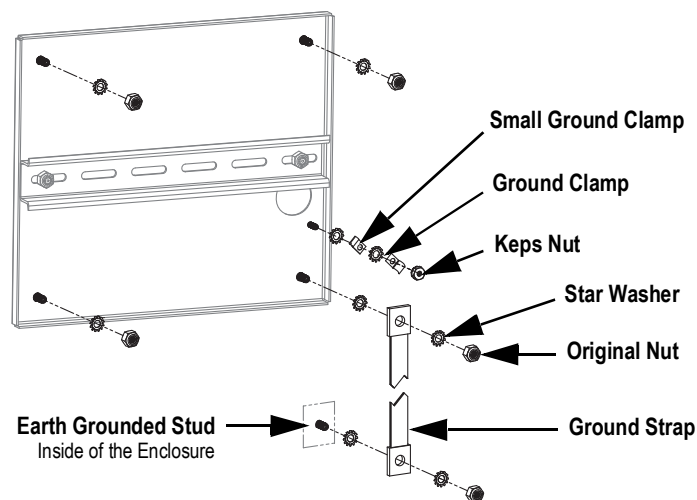

Figure 2-29. Backplate Shield Grounding
3. Secure the other end of the ground strap to an earth grounded stud inside of the enclosure with star washers on either side of the ground strap, see Figure 2-29. Make sure there is an appropriate amount of slack in the grounding strap for opening and closing the enclosure door.
Note Ensure the small ground clamp is installed first then install the ground clamp, see Figure 2-29 on page 29.